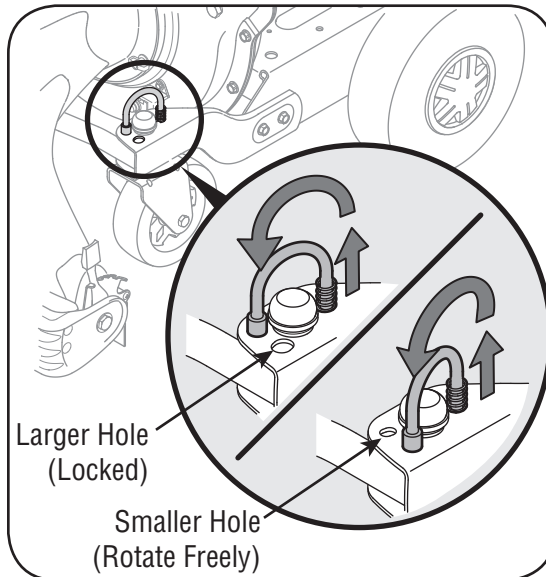

Figure 10
1. Lift and place pins in the larger holes for locked or straight ahead operation and when operating on slopes. See Figure 10.